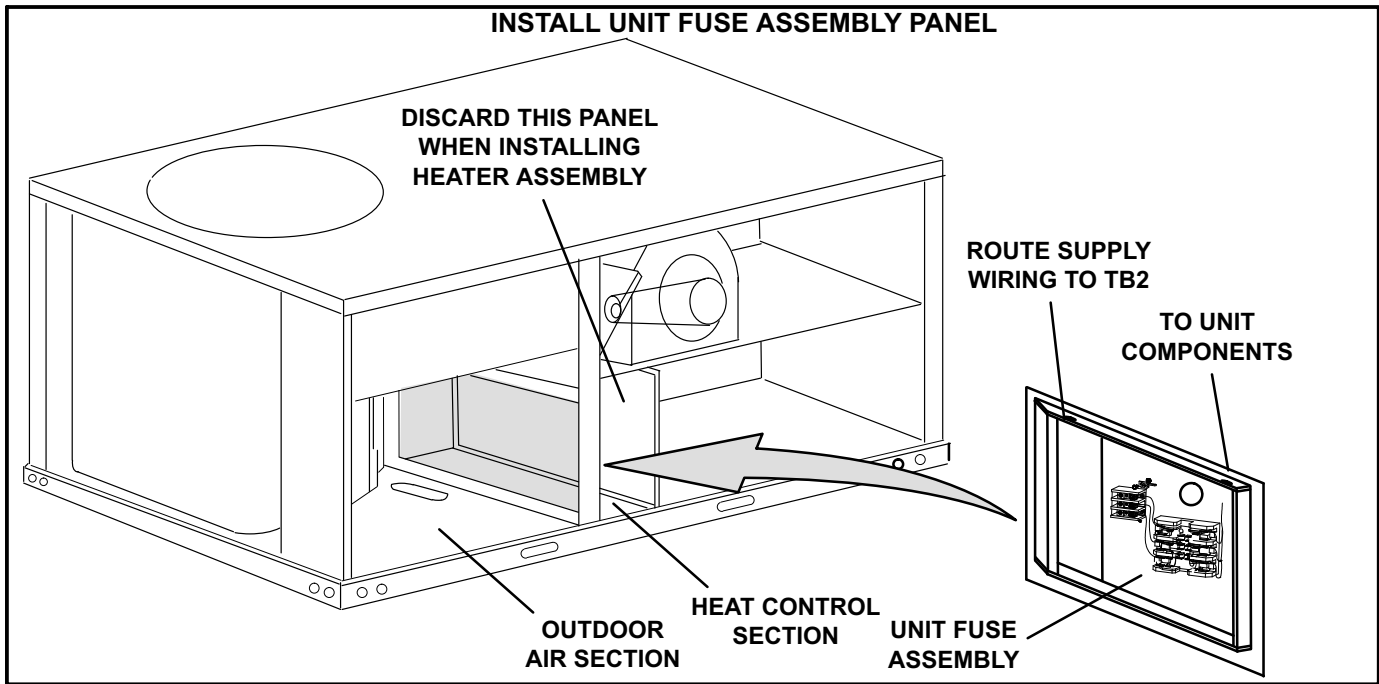

FIGURE 2
- 4- Install unit fuse assembly into heat control section. See figure 2. Secure assembly with sheet metal screws from the heat control section.
- 6- Uncoil wire harness connected to F4 and route through top of assembly and conduit. See figure 2.